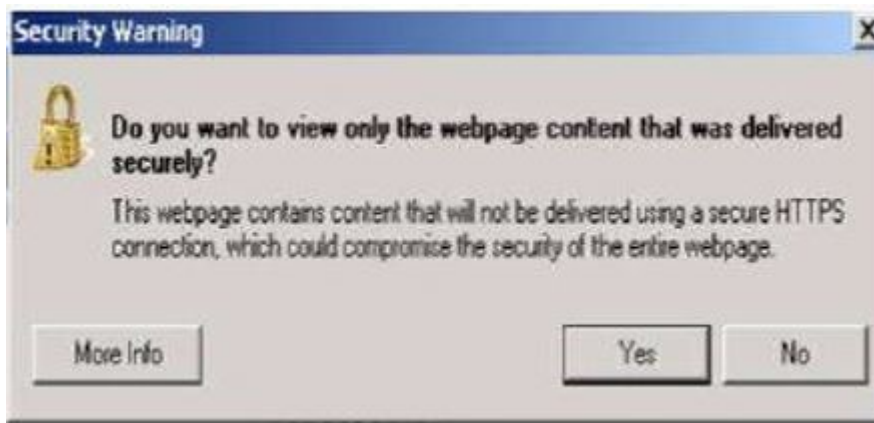

Fig. 2
3. If a security message appears “Do you want to view only the web page content that was delivered securely?” (Fig. 2) . Press “No” to continue.